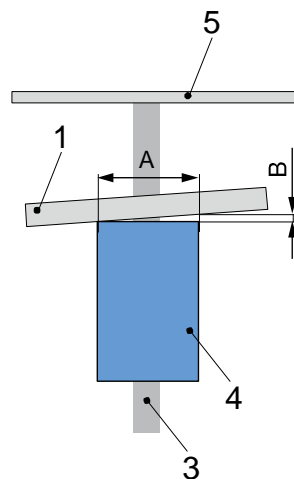

Fig. 2: Alignment of brake to the flange
3. Position the mounting flange (Fig. 2, Item 1) (customer-side) at the fixed bearing of the piston rod.
4. Push the brake onto the piston rod and bring it up to contact to the mounting flange (Fig. 2, item 1)(customer-side).
To check the angular misalignment of the mounting flange (Fig. 2 Item 1) to the brake (Fig. 2 Item 4), the distance of the brake to the mounting flange at the circumference of the brake is measured. Maximum gap B = 0.05 mm